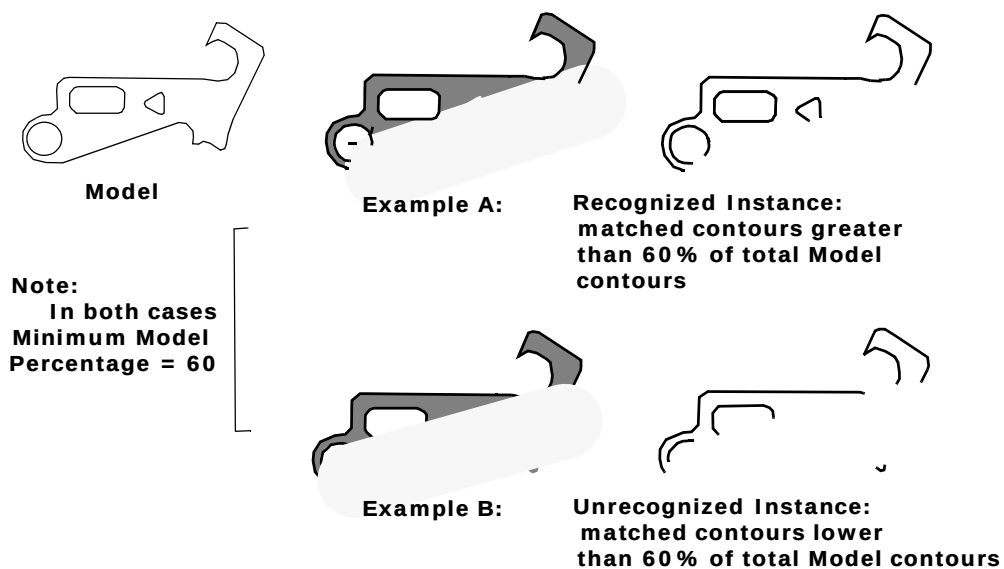
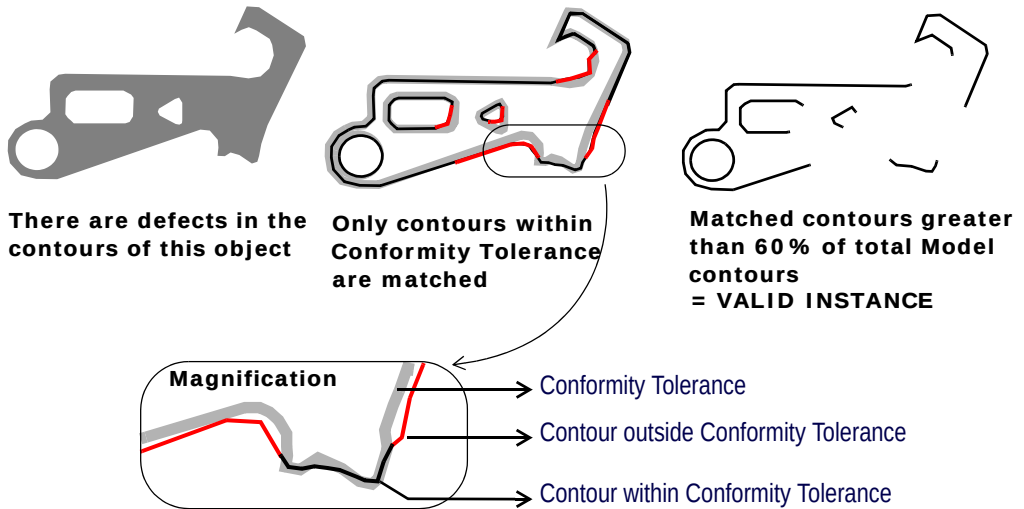

Figure 163 Minimum Model Percentage — Example with Occlusion of Object Contours
Figure 164 Minimum Model Percentage — Example with Defects in Object Contours
- Only those contours that can be found within the conformity tolerance zone are considered. See the magnified representation in Figure 164.
- Decreasing **Minimum Model Percentage** can help detect objects which are either partially occluded (Figure 163) or objects having significant defects in their contours (Figure 164).